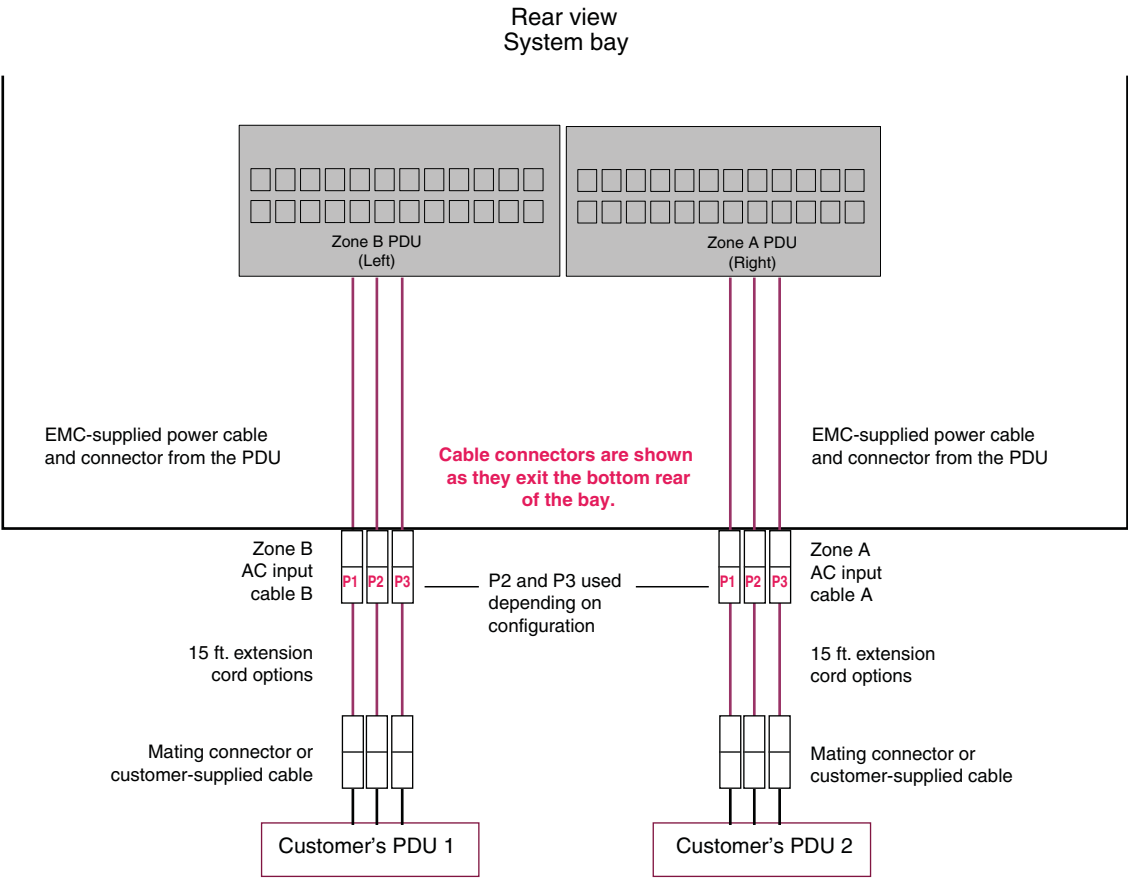
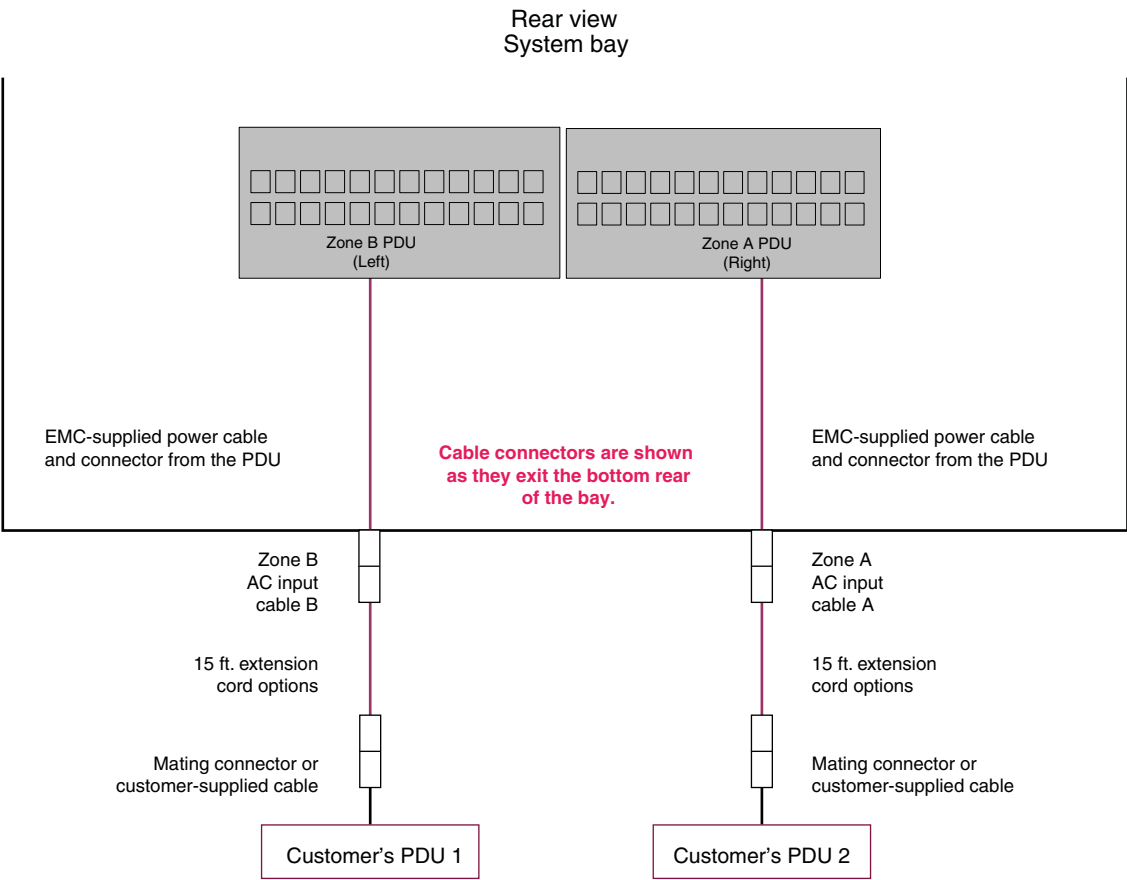

Figure 20 Customer input power cabling, single-phase
Figure 21 Customer input power cabling, three-phase (Wye or Delta)
5. Connect the customer-supplied power cables to EMC power zones as described in “Procedure A-2: EMC Customer Engineer” and shown in Figure 21 on page 62.
The amount of cords needed is determined by the number of bays in the array and the type of input power source used (single-phase or three-phase) as shown in Figure 20 on page 61 and Figure 21 on page 62.